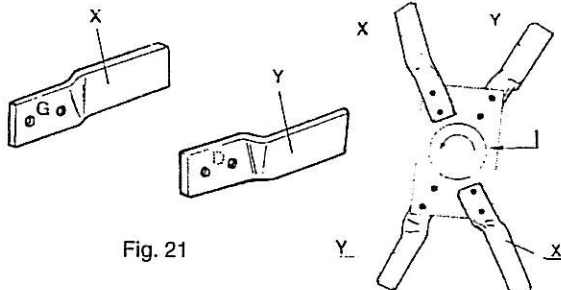

Fig. 21
- On middle flanges (I) fit 2 right hand blades (Y) to the right hand side of the flange and 2 left hand blades (X) to the left hand side (See Fig. 21).